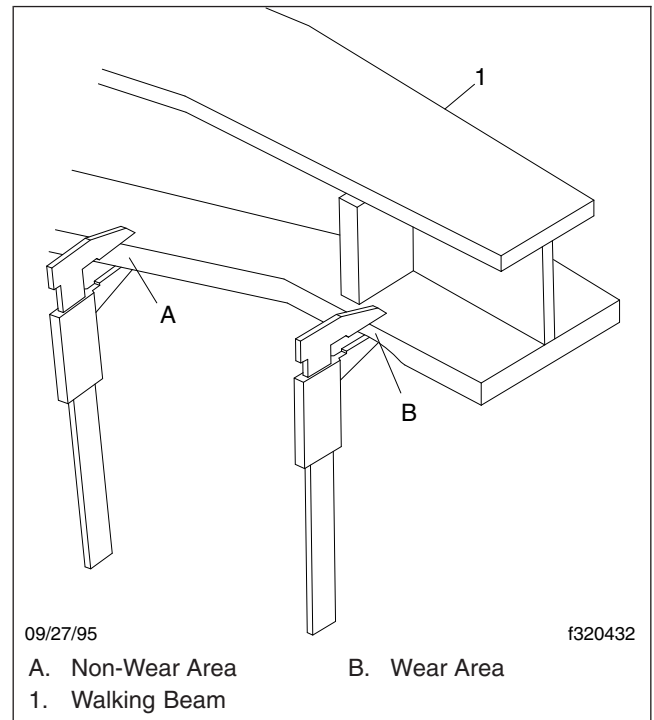

Fig. 7, Walking Beam End Wear Thickness
5. Manipulate the walking beam so that a micrometer, vernier, or dial caliper can be used to determine the wear area thickness on the bottom face. See **Fig. 7**. Measurements should be taken a minimum of 1/2 inch from the beam flange edges to eliminate any edge wear that may have occurred. Subtract the wear area thickness (see **Fig. 7**, Ref. B) from the thickness at the non-wear area (see **Fig. 7**, Ref. A) to determine the amount of wear.